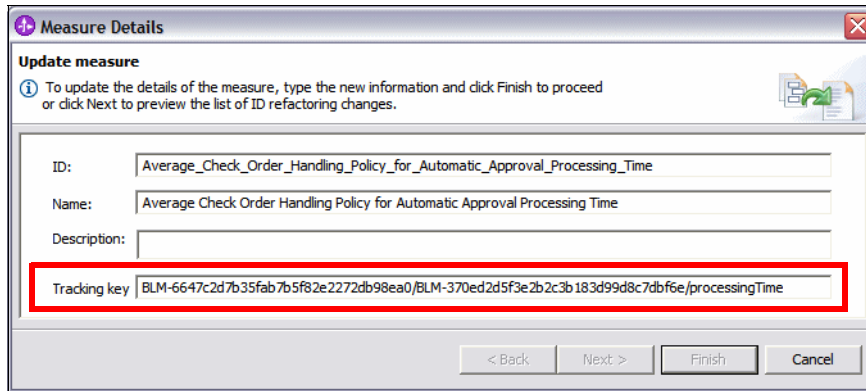

Figure 12-68 Round trip measure details with tracking key
- ▶ Click *Details*. Notice the tracking key (Figure 12-68).